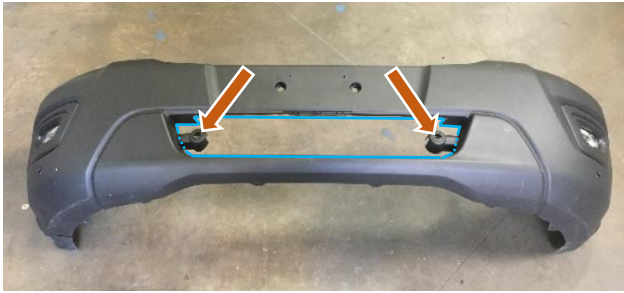

Figure 33: Cutting Grille of the Plastic Factory Bumper
- Using a cut off wheel, cut the plastic factory bumper to allow the aluminum bumper to be installed through the plastic bumper (Figures 33 - 37). Cut around all desired features as needed – winch/fairlead, front receiver, and/or tow hooks. MEASURE TWICE, CUT ONCE!